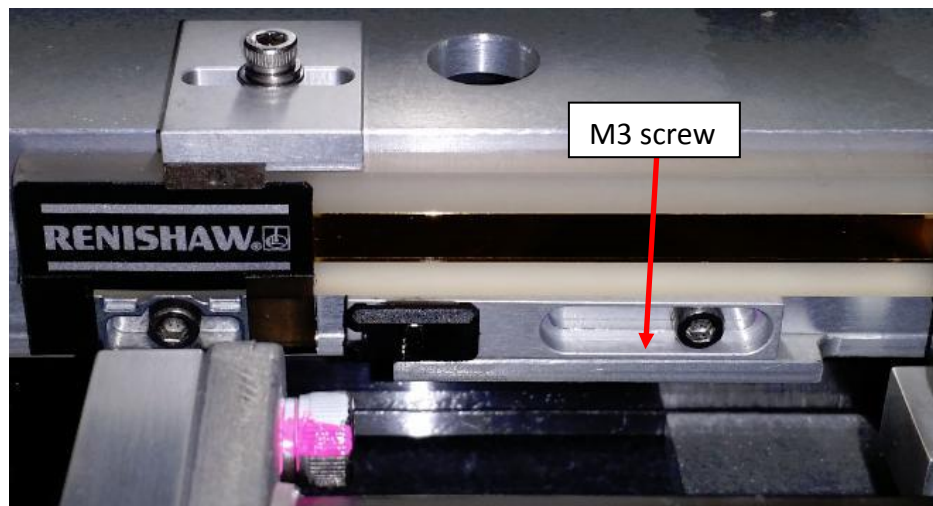

Figure 2 Y-axis Home Sensor M3 Screw
2. Loosen the M3 screw as shown below in the Figure 2.
4. Once home sensor adjustment complete, tighten M3 screw as shown in Figure 2.